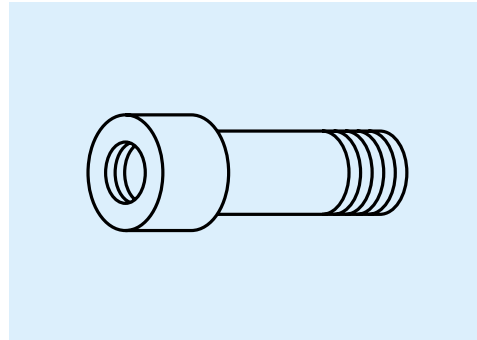

Fig. II-5-5 Connector
- When attaching a grease fitting to the end cap after the double seal is equipped, you require a connector shown in Figure II-5-5. Please specify the connector set when ordering linear guides.
- When attaching a grease fitting to the end cap after the protector is equipped, you require a connector shown in Figure II-5-5. Please specify the connector set when ordering linear guides.